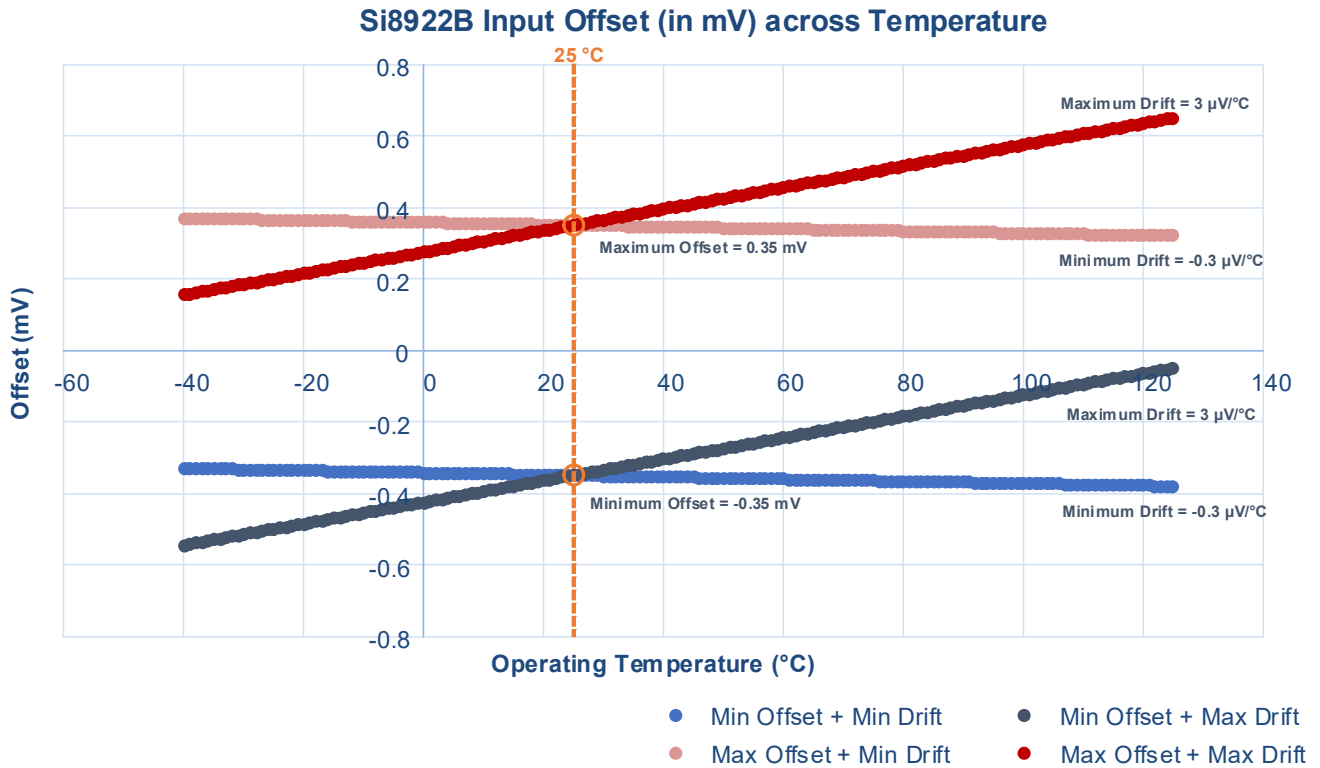
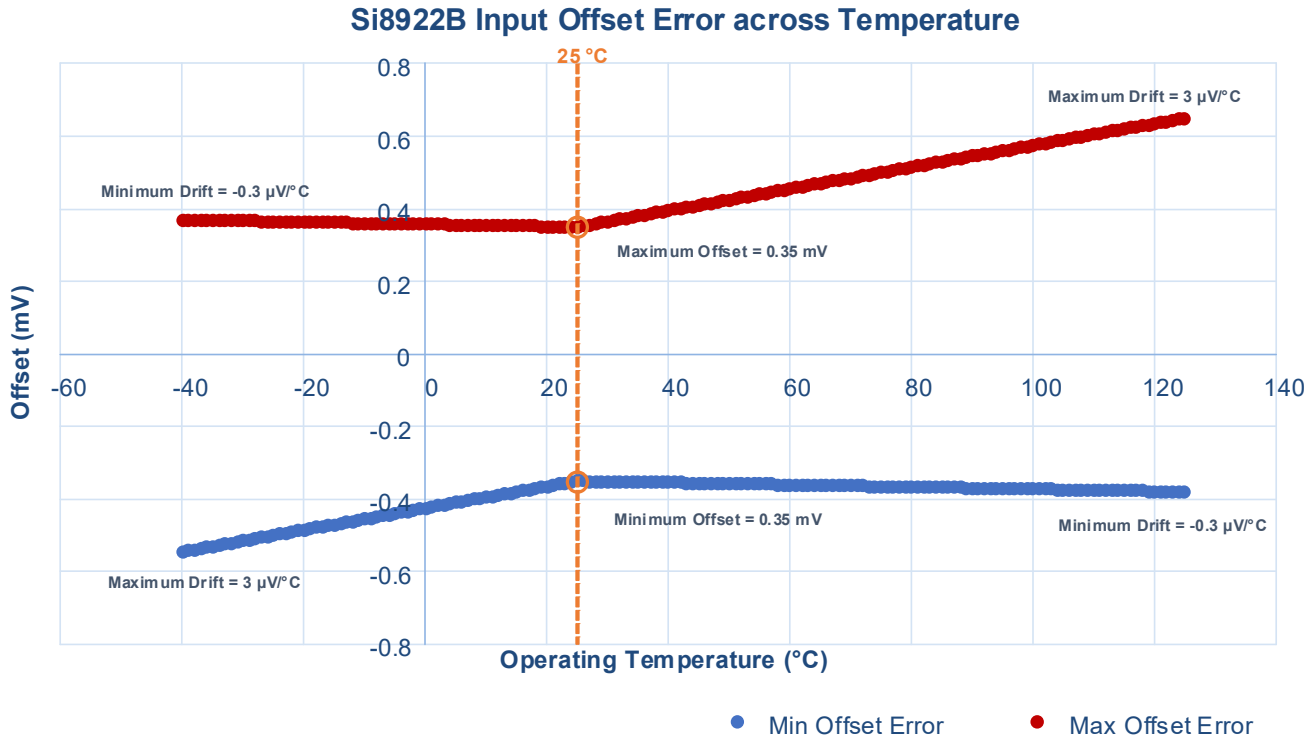

Figure 5. Si8922B Four-Line Offset Graph
Figure 6. Si8922B Input-Offset Error across Temperature
The data sheet provides the minimum and maximum offset, as well as minimum and maximum offset drift. With this information, calculating just four lines can provide a great visualization of the input offset error boundaries, as seen in Figure 5 below. The minimum and maximum offset can be thought of as the 25 °C intercept. Each of the intercepts has two slopes, defined by the minimum and maximum drift.
As shown in Figure 5 above, 25 °C represents an inflection point where the lines meet and cross each other. The maximum of the two red lines at a given temperature represents the maximum offset error at that temperature. Conversely, the minimum of the two blue lines represents the minimum offset error at any given temperature. The four lines together form the offset error boundary across temperature, as shown below in Figure 6.
Figure 5 and Figure 6 illuminate how simple the error calculations are. When calculating the exact error value at any given temperature, one common misstep is to not account for the intercept of 25 °C. The drift value should be multiplied by the temperature difference from 25 °C. Here is an example calculation for the minimum offset at -40 °C.
-65 °C represents the temperature difference, and the negative sign must be kept when multiplying with the drift value. As seen in Figure 5 and Figure 6, the minimum offset at -40 °C is a result of the 3 μV/°C drift component, which is used in Equation 2. For the maximum offset at -40 °C, the -0.3 μV/°C drift component is combined with the maximum offset at 25 °C, as shown in Equation 3 below.